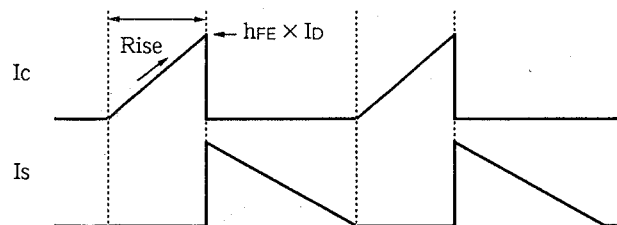

Fig. 14-15 Relations between I_c and I_s
- ① The input AC power is rectified and input to the switching circuit as V_{IN} .
- ② In the switching circuit, starting current I_1 flows to the base of the Q651 through the R258 resistor for starting and C715 capacitor. When the starting current I_1 flows, the Q651 is activated, and I_c starts flowing.
- ③ The I_c linearly increases as shown in Fig. 14-15. On the second side, a starting power is generated at the winding S to make the current I_s' flow, but it is blocked by D_s , and the I_s' does not flow.
- ④ At the same time the starting power is also generated at the base drive winding B, and the drive current I_D flows. Then the Q651 is instantaneously set to ON.
- ⑤ The I_c continues increasing to the point, $I_c = h_{FE} \times I_D$, where is the limit of the base drive current I_D .
- ⑥ When the increasing curve of the I_c is suppressed, counter electromotive force is generated on the base drive winding B. The V_{BE} of the Q651 is drastically biased invertedly by this counter electromotive force and the Q651 is instantaneously set to OFF.
- ⑦ At the same time, starting power is generated in the direction reversed in step ③ on the winding S of the second side. The I_s flows by this counter electromotive force. While the I_s is flowing, starting power is generated in the direction which is biased reversely between base and emitter of the Q651 on the base drive winding B.
- ⑧ When the starting power of the winding S is lost and the I_s does not flow, the starting power of the base drive winding B is also lost. Then the current I_1 flows, and the operation of step ② and after will be repeated, and the switching operation will continue. (Once started, the voltage is induced on the base drive coil by the interaction of coils of the transformer and the Q651 is set to ON again. Therefore switching will continue even if the R258, C715, D659, C721 and R266 are removed.)
When the change occurs on 135V on the output side, the change is amplified by the Q662, and input to a photocoupler (IC651) as I_a . In this photocoupler, a charging section and a non-charging section are coupled unelectricaly so that GND of both sections are not connected. The error output sent by the IC651 photocoupler is transmitted to the Q652 and Q653 pulse width control circuit. In this circuit, the pulse width of the I_c shown in Fig. 14-15 is changed so that the change of 135V is reduced.